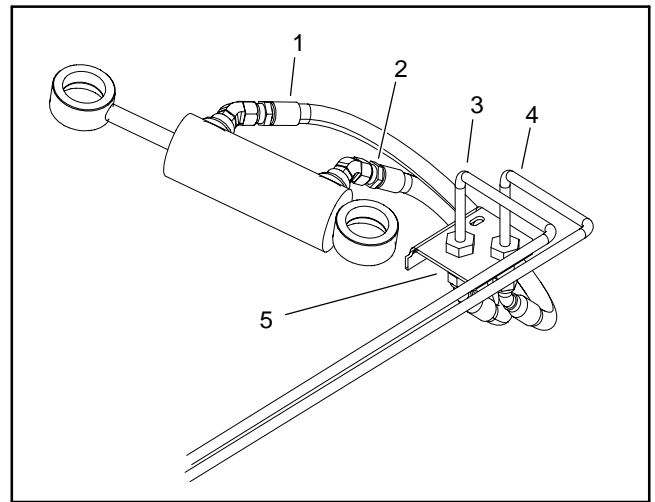
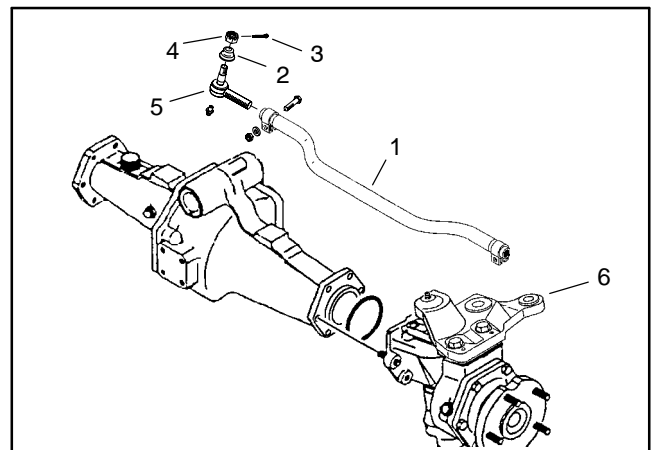
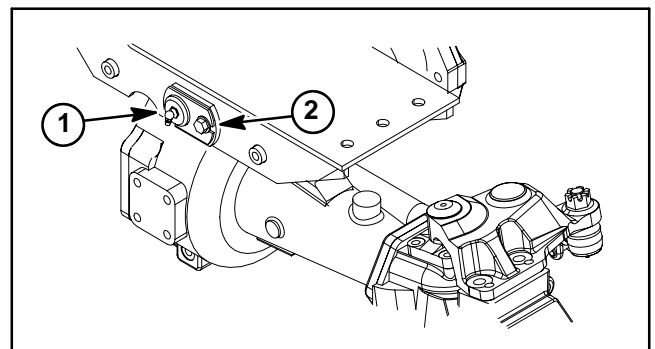

Figure 11
Figure 12
Figure 13
7. Disconnect both steering cylinder hydraulic hoses from hydraulic tubes at rear frame mount (Fig. 11). Remove bulkhead locknuts and washers that secure steering cylinder hydraulic tubes to rear frame mount. Separate tubes from frame mount.
9. If required, remove tie rod ends from steering arms on rear axle (Fig. 12). Remove the cotter pins and castle nuts from the tie rod ball joints. Use a ball joint fork and remove the tie rod ends from the axle steering arms.
10. Support rear axle to prevent it from falling. Remove six (6) cap screws, flat washers and flange nuts that secure rear frame mount to equipment frame. Lower rear axle and rear frame mount from machine.
11. Remove lock nut and washer from pivot pin that attaches rear axle to rear frame mount. Remove washer head screw that secures flange of pivot pin to frame mount (Fig. 13).
2. Install axle pivot pin to secure axle to rear frame mount. Tighten lock nut and then loosen it slightly to allow the axle pin to pivot freely. Secure pivot pin to frame mount with washer head screw (Fig. 13).
3. If removed, install the tie rod to rear axle (Fig. 12). Tighten ball joint castle nuts and install new cotter pins.
5. Secure rear mount to frame with six (6) cap screws, flat washers and flange nuts.
7. Attach steering cylinder hydraulic tubes to rear frame mount with washers and bulkhead lock nuts (Fig. 11). Install steering cylinder hoses to hydraulic tubes.